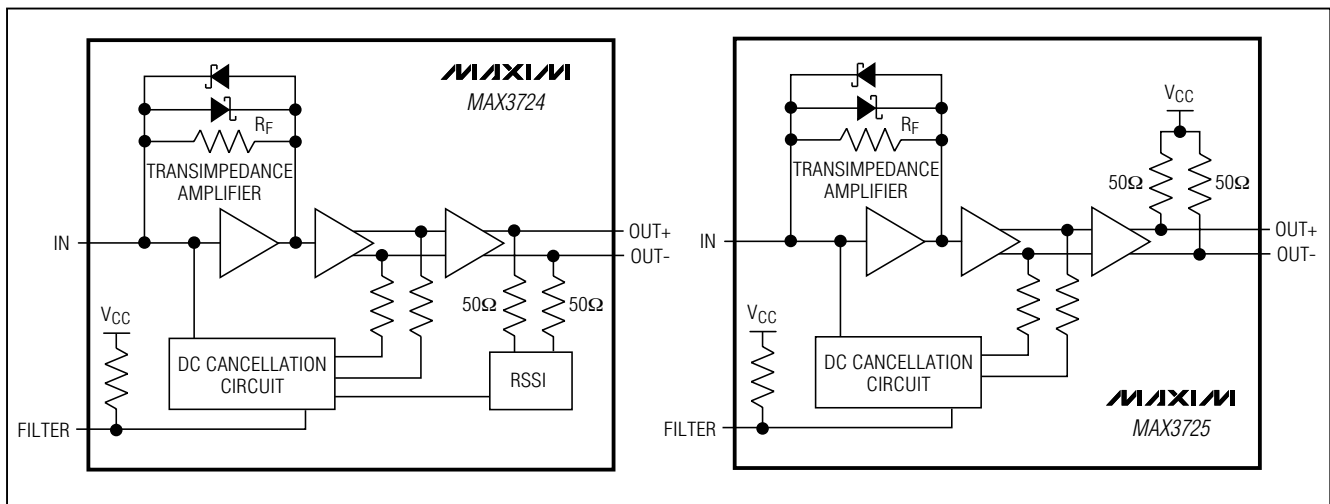

Figure 1. Functional Diagram
The MAX3724/MAX3725 are transimpedance amplifiers designed for up to 3.2Gbps SFF/SFP transceiver modules. A functional diagram of the MAX3724/MAX3725 is shown in Figure 1. The MAX3724/MAX3725 comprise a transimpedance amplifier stage, a voltage amplifier stage, an output buffer, and a direct-current (DC) feedback cancellation circuit. The MAX3724 also includes a signal strength indicator (RSSI). To provide this signal in